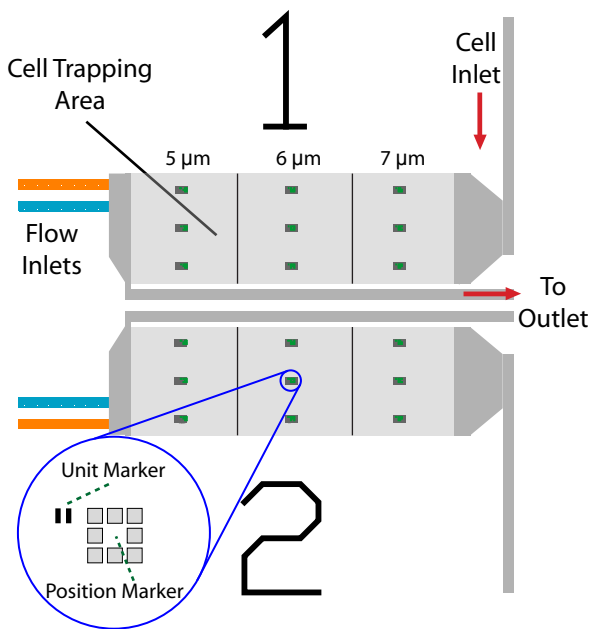

Figure 2 Trap Area
5. Place assembly on an inverted microscope. Focus on the center of the "imaging" area. The trapping region is $1 \times 3 \text{ mm}$ in size with 5, 6, and 7 micron ceiling heights in series as depicted in Figure 2.